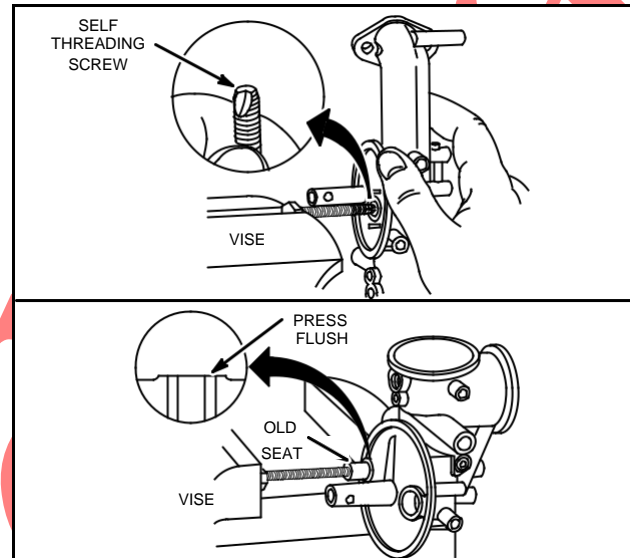

Fig. 263 - REPLACING FLOAT VALVE SEAT
2. Turn carburetor body to thread screw or screw extractor into seat, Fig. 263.
5. Press new seat flush with body using screw/screw extractor and old seat as driver, Fig. 263.